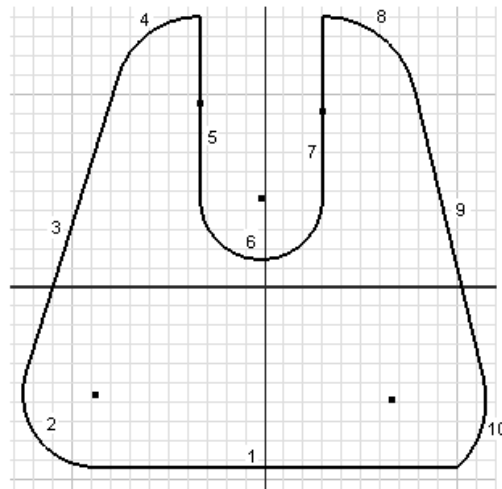

Figure 3-55 Profile with numbered geometries
- a. Start a new metric template and draw the outer loop of the sketch, refer to Figure 3-55.
1. Using the **Line** tool, draw the profile, as shown in Figure 3-55.
As evident from Figure 3-55, some of the constraints such as tangent and equal are missing in the sketch. Therefore, you need to manually add these constraints to the sketch. You can view the constraints applied on various geometries using the **Show Constraints** tool.
1. In Figure 3-55, the **Tangent** constraint is missing between line 1 and arc 10. To add this constraint, choose the **Tangent** button from the **Constrain** panel of the **Sketch** tab; you are prompted to select the first curve. Select arc 10 and then select line 1 as the second curve. Similarly, add this constraint to all places in the sketch where it is missing.